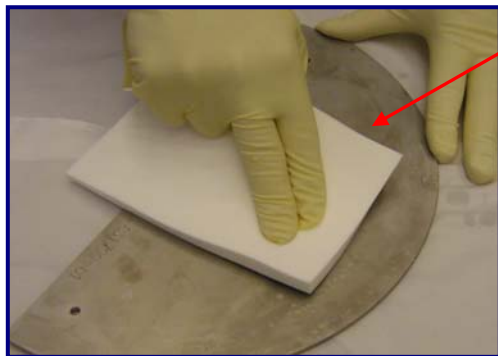

Fig 9: UltraSOLV[®] Sponge wiping Hitachi ETCH part
Step 7: Using the dampened UltraSOLV[®] Sponge, wipe off deposition from Hitachi ETCH parts (See Fig 9 & 10)